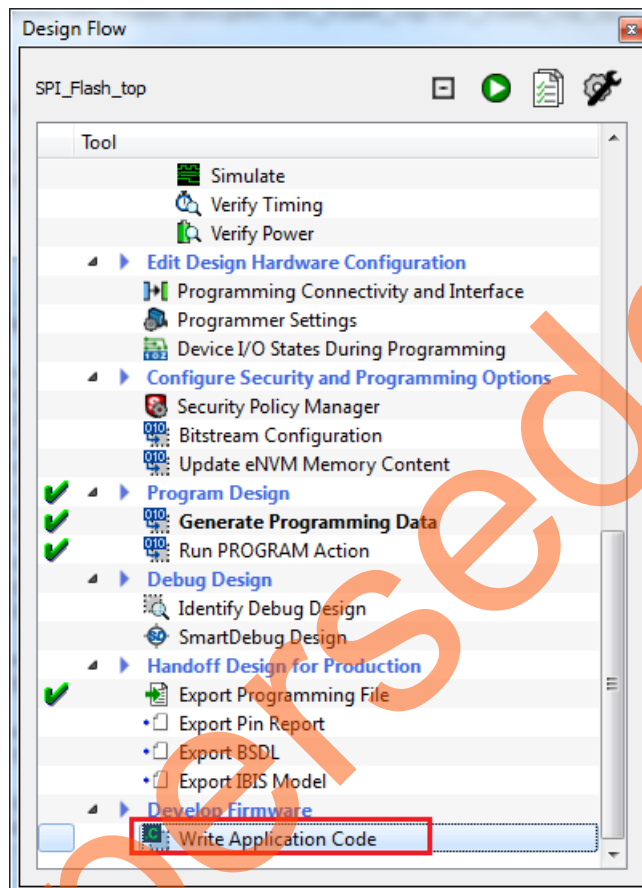

Figure 29 • Invoking SoftConsole from the Libero SoC
1. After successful programming, open the SoftConsole project by double-clicking **Write Application Code** under **Develop Firmware** in **Design Flow** window as shown in Figure 29.